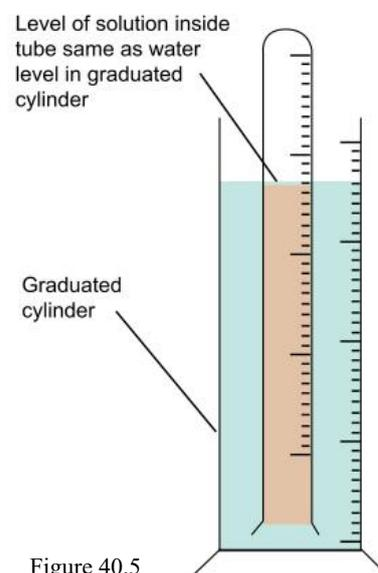

Figure 40.5
8. Cover the hole in the stopper with your finger and transfer the gas measuring tube to a 250 mL graduated cylinder which must be almost filled with tap water as shown in Figure 40.5. Adjust the position of the tube until the level of the acid solution inside the tube is the same as that of the water in the cylinder. Read the volume of hydrogen gas, taking care to observe the calibration marks on the tube. Record the volume to the nearest 0.1 mL.